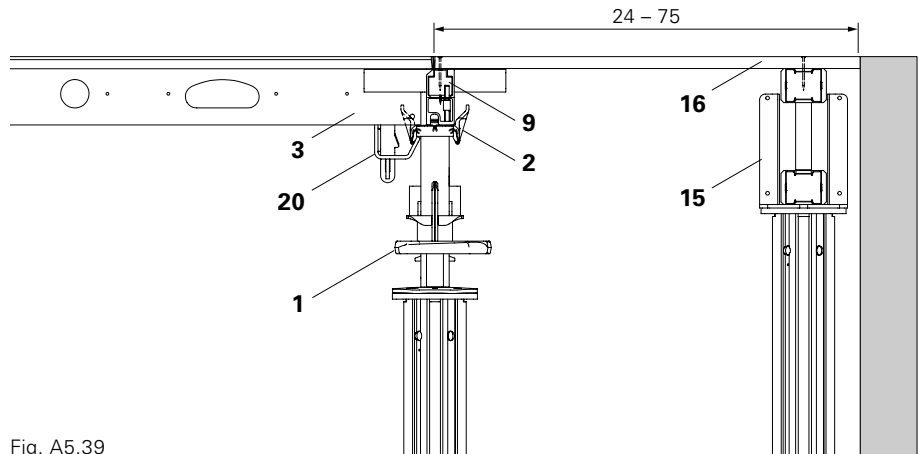

Fig. A5.39
1. Mount the Panel SDP (3) in the Main Beam (2).
2. Insert Edge Beam SRT-2 (9) in the Main Beam.
3. Position additional prop with Cross-head (15) and formwork girder.
4. Install formlining (16) and secure with nails. (Fig. A5.39 + A5.40)